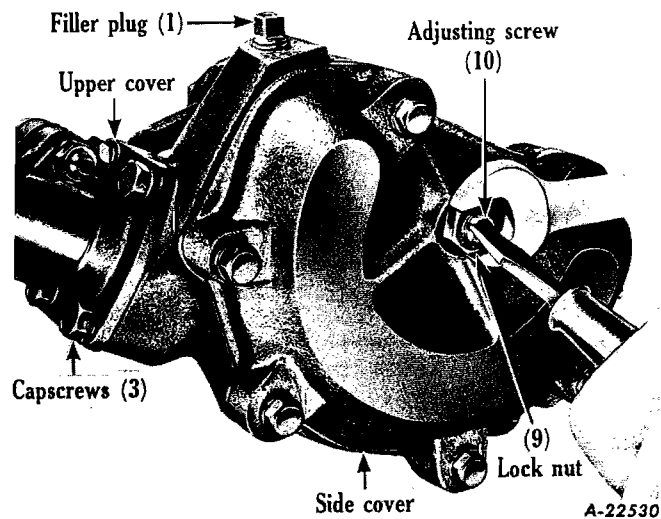

Fig. 4 - Illustrates location of adjusting screw and locknut
- (a) Before making this adjustment loosen the housing side cover adjusting screw (9, 10) to free the studs in the cam groove (Fig. 4).
from extreme to extreme position (Fig. 4).